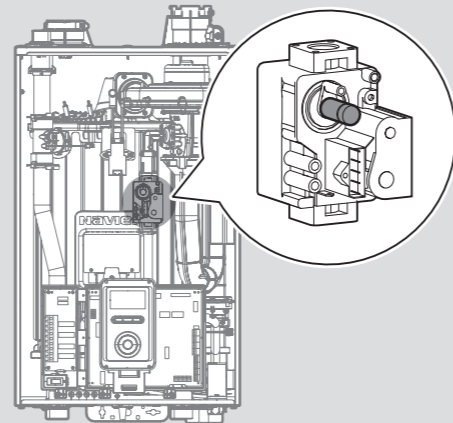

Figure 7. Set Screw Location
- c. Activate multiple zones and set the boiler to operate at 1-stage MIN mode. Measure the CO₂ value at low fire. If the CO₂ value is not within 0.5% of the value listed in Table 2, the gas valve set screw will need to be adjusted. If adjustment is necessary, locate the set screw as shown in Figure 7. Using a 5/32 in or 4 mm Allen wrench, turn the set screw no more than 1/4 turn clockwise to raise or counterclockwise to lower the CO₂ value.